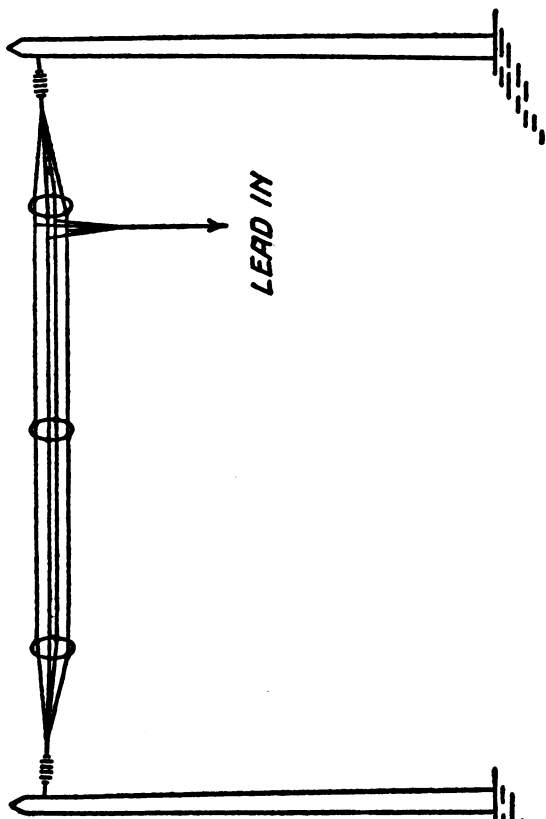

Fig. 29. The cage antenna is very efficient for both transmitting and receiving. The wires are supported in a tubular formation by metal rings.
6. The cage type of antenna can be made into any of the above-mentioned types of antennae. It consists of using a number of strands of wire arranged in a circle instead of the single strand; each wire of the cage antenna is fastened to a number of metal rings which support the wires in the form of a tubular cage (see Fig. 29). The use of the cage form of antenna is becoming very popular and its advantages are: the stresses due to high voltages are much reduced, due to the added surfaces, the capacity of such an antenna is higher than the ordinary